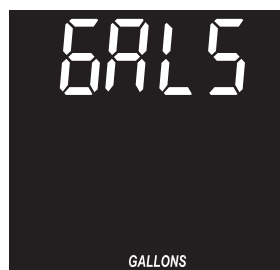

FIG. 34
3. Once in this display, press the PROGRAM button twice and one of the two displays in Figure 34 is shown.